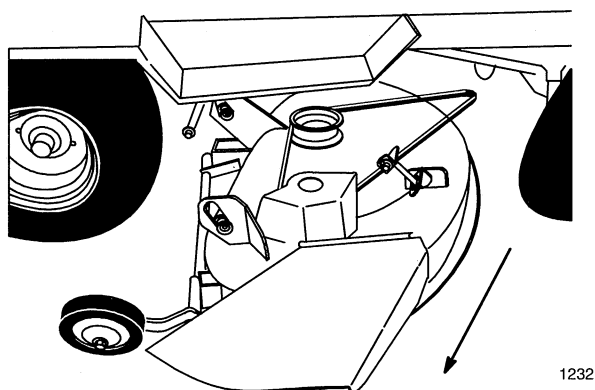

**Figure 15**
5. Remove hairpin cotter and washer from rear link and remove from attachment lift (Fig. 15).
6. Remove hairpin cottes and washers from rear lift arms (Fig. 15).
7. Slide deck right, off rear lift arms (Fig. 15).